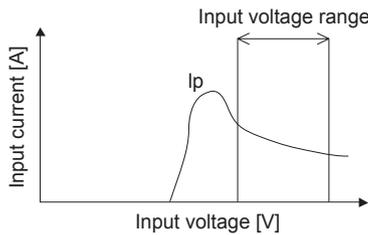

Fig.2.2 Input Current Characteristics
■ Choose a front end power supply that can supply enough current  $I_p$  (Fig. 2.2) for starting up the power module.